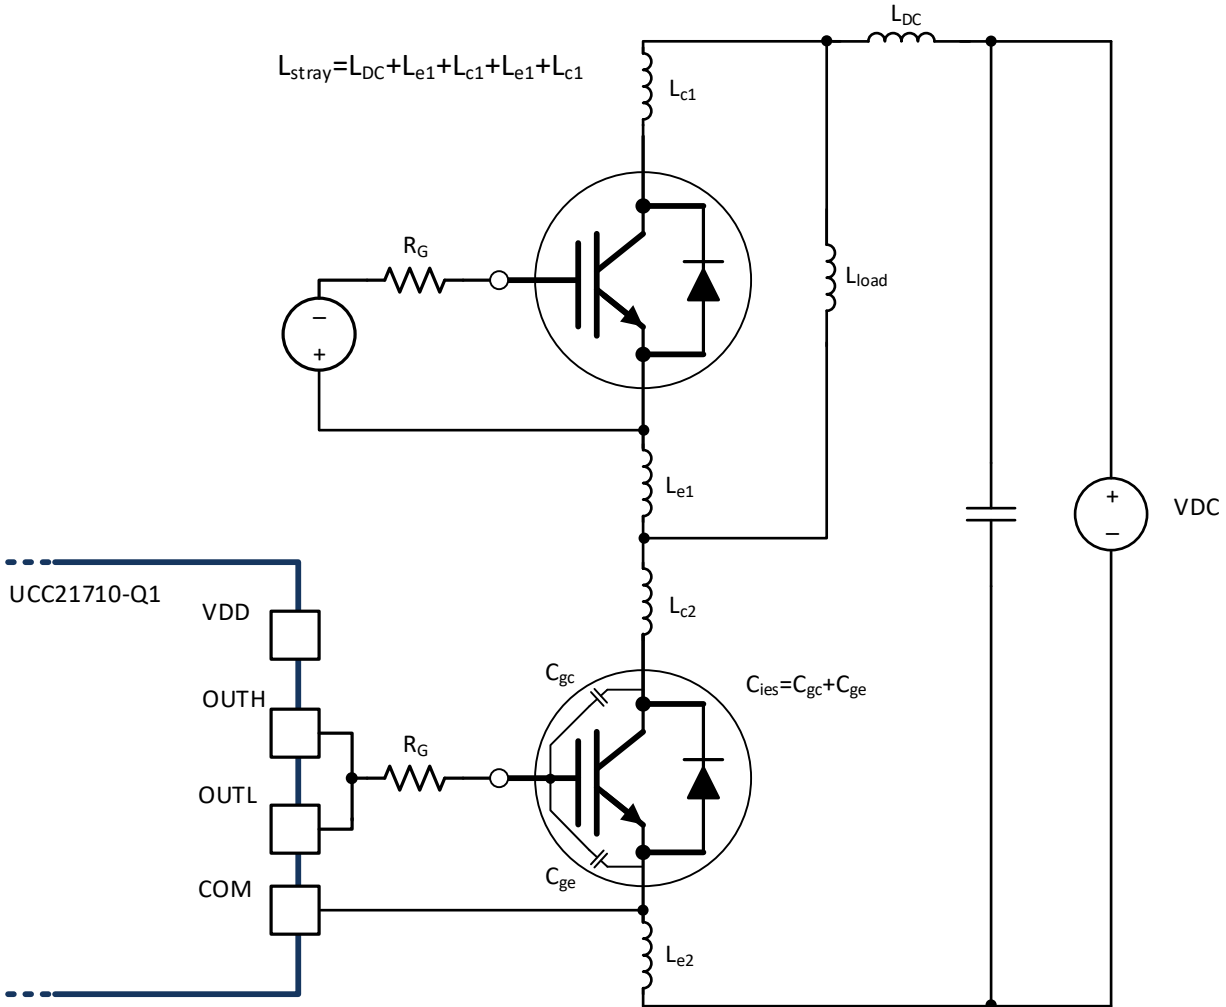

Figure 9-6. Stray Parasitic Inductance of IGBTs in a Half-Bridge Configuration
- L_{stray} is the stray inductance in power switching loop, as shown in Figure 9-6